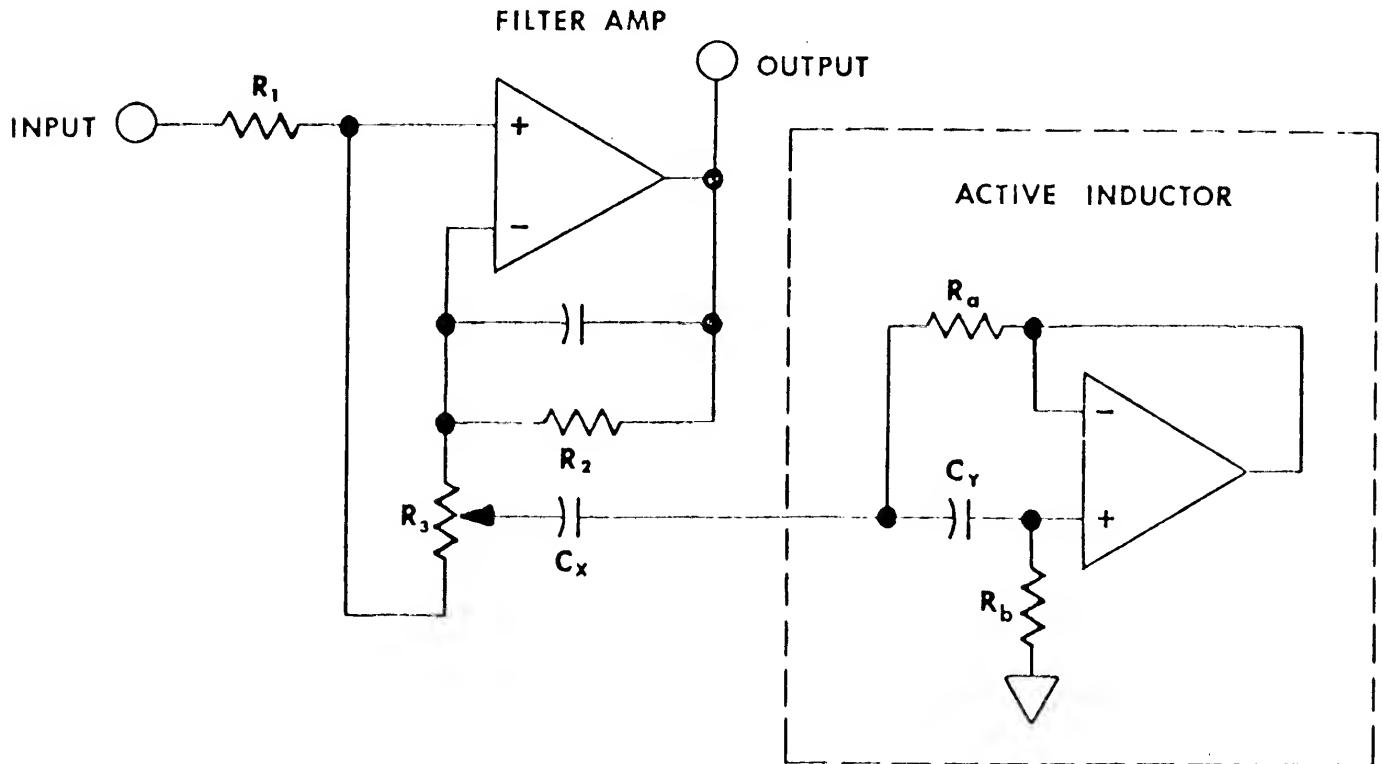
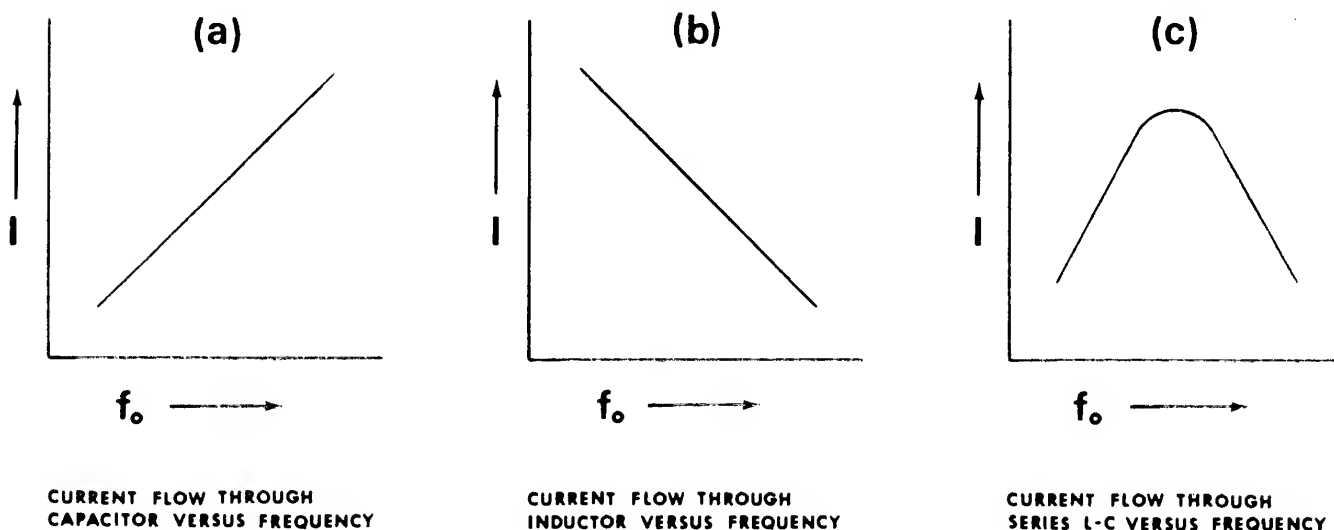

Figure 2-2 TYPICAL FILTER SCHEMATIC
Figure 2-3
Referring to Figure 2.2, the filter amplifier is connected as a unity gain follower because R1 and R2 are equal. With the potentiometer connected as shown, consider the result if the wiper of the pot were connected to AC ground. As the wiper is moved towards the positive input of the filter
2.3 THE ACTIVE INDUCTOR. The Model 530 does not use conventional coils to form its L-C-R networks. Rather the inductors are synthesized through the use of a circuit known as an active inductor, shown in Figure 2-2. To understand the operation of this circuit we look at the frequency response characteristic of a capacitor as shown in Figure 2-3 (a).
As frequency increases, capacitive reactance decreases and more current flows through the capacitor. An inductor as seen in Figure 2-3(b) functions in just the opposite manner. As frequency increases, inductive reactance
increases and less current flows through the inductor. The active inductor circuit uses a capacitor and an operational amplifier to simulate the action of an inductor. If we remove capacitor C_y from the circuit in Figure 2-2 we see that current flows into the circuit through resistor R_a to the virtual ground of the operational amplifier output. If we now return capacitor C_y to the circuit we see that with increase in frequency there will be current flow through the capacitor which will increase with frequency. This increase in current flow will be seen as an increase in voltage across resistor R_b which will be reflected in an increase in output voltage of the operational amplifier. This increased voltage results in a decrease in current flow through resistor R_a . This change in current flow through resistor R_a follows the chart 2-3(b) which is that of an inductor. The current flow through the active inductor in series with capacitor C_x is seen in Figure 2-3(c) in which the peak current is achieved when the inductive reactance of the inductor equals the capacitive reactance of the capacitor. This point is the resonant frequency of the circuit.